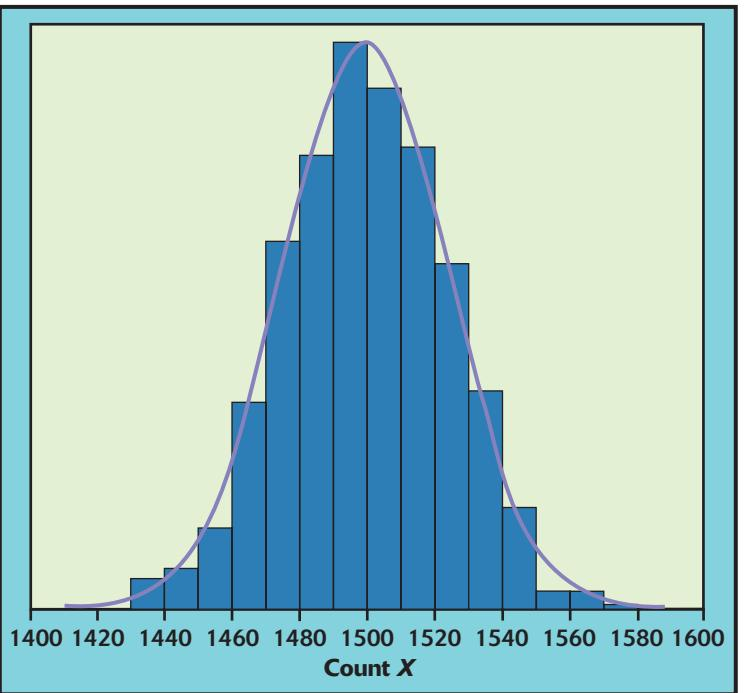

FIGURE 5.8 Histogram of 1000 Binomial counts ($n = 2500, p = 0.6$) and the Normal density curve that approximates this Binomial distribution.
2. We can simulate a large number of repetitions of the sample. Figure 5.8 displays a histogram of the counts X from 1000 samples of size 2500 when the truth about the population is $p = 0.6$. Because 221 of these 1000 samples have X at least 1520, the probability estimated from the simulation is
3. Both of the previous methods require software. Instead, look at the Normal curve in Figure 5.8. This is the density curve of the Normal distribution with the same mean and standard deviation as the Binomial variable X :